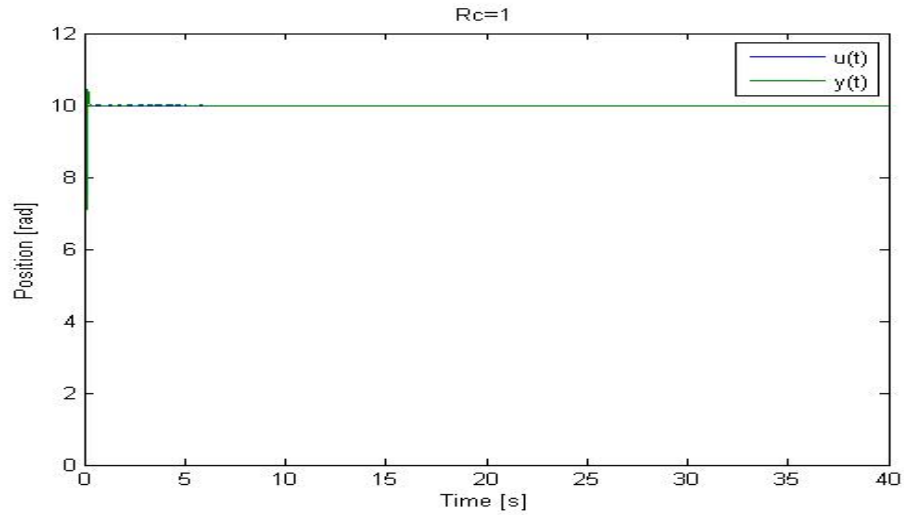

Figure 4.5: Systems response to constant input with  $Rc = 1$
3. Figures 4.5- 4.22 are plots of the systems response and error signal for 3 different controllers (proportional, integral, and derivative) with 3 different inputs (constant, ramp, and quadratic).